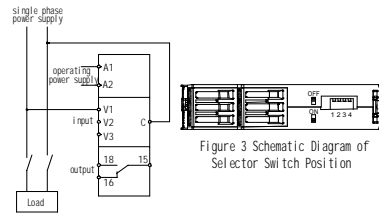

Figure 2 Connection Diagram of NJB1-Y Relay
- Connection methods of NJB1-Y single phase voltage relays: see Figure 2.